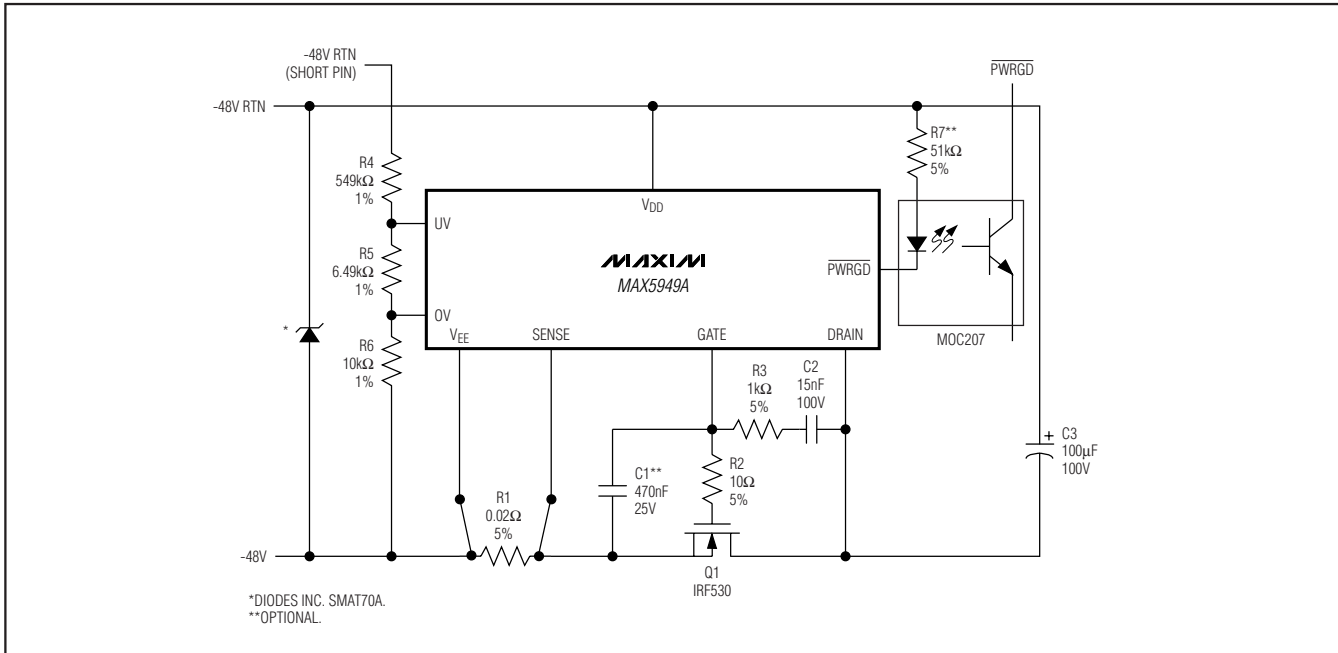

Figure 15. Using PWRGD to Drive an Optoisolator
The PWRGD signal can also be used to turn on an LED or optoisolator to indicate that the power is good (Figure 15) (see the Component Selection Procedure section).
- If an optocoupler is utilized as in Figure 15, determine the LED series resistor: